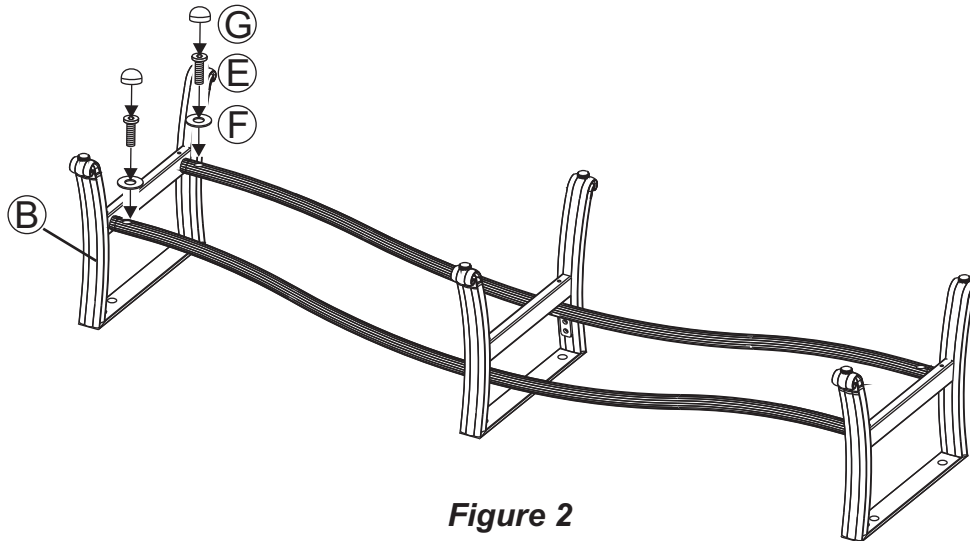

Figure 2
Attach a leg to the leg connector bracket by carefully guiding the bolts already in place on the table legs (each leg has two bolts) through the holes in the leg connector bracket. Add a washer and a nut to the end of each bolt as shown in **Fig.2**. **Hand tighten only 2-3 turns**. Repeat on the other three legs.
- 2 Attach a side leg to the leg connector bar by using the bolts and washers as shown in **Figure 2**. Guide the bolts through the holes in the leg connector bar, into the pre-drilled holes in the side leg. **Hand tighten only 2-3 turns**. Repeat for the other side leg.